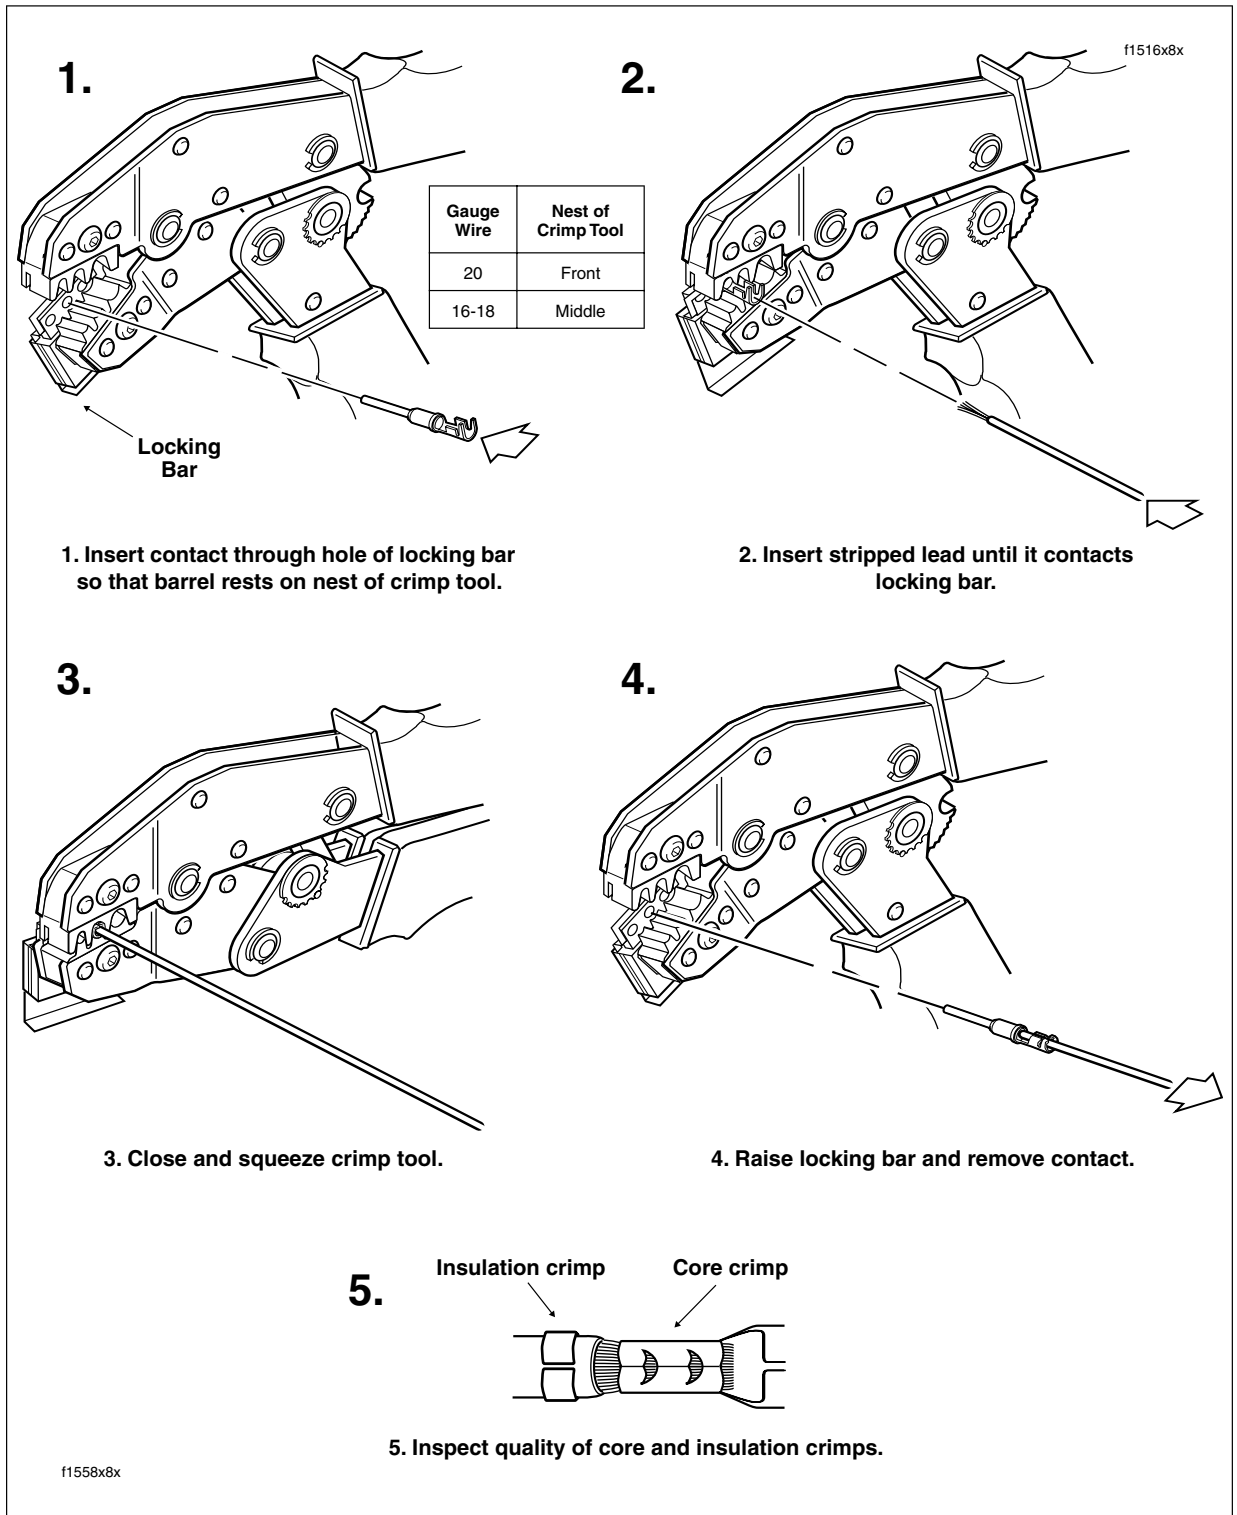

Figure B-7. Deutsch Crimping Procedure
2. Squeeze the handles to cycle the crimp tool to the fully open position. See Figure B-7.